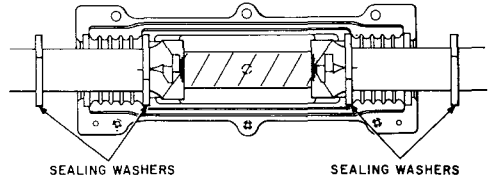

Fig. 14—Placing Sealing Washers
- 4.04 Select four sealing washers (using Table A as a guide) and place them over the cable. Position the inner washers so they fit properly in the splice case groove. Mark the cable sheath (Fig. 14).